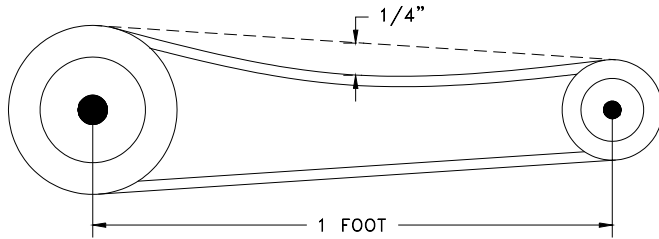

Fig. 11 – Belt & Pulley Tension
2. Slide the motor plate back until proper tension is reached. For proper tension a deflection of approximately  $\frac{1}{4}$ " per foot of center distance should be obtained by firmly pressing the belt. Refer to Fig. 11.